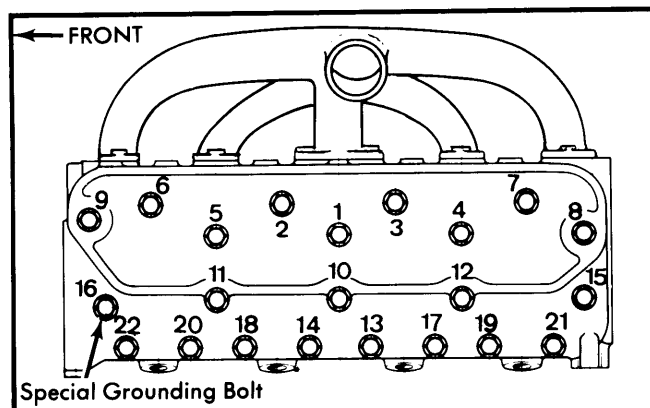

Fig. 1 Cylinder Head Bolt Tightening Sequence
2) Tighten cylinder head bolts in first step to 33 ft. lbs. (4.5 mkg) in sequence shown in Fig. 1. In second step, tighten in sequence to 47 ft. lbs. (6.5 mkg). Third step consists of loosening each bolt one at a time  $\frac{1}{4}$  turn in sequence, and then retightening to 47 ft. lbs. (6.5 mkg). Install injector holders (with new seals), injector shields and washers. Install push rods in original position and install rocker arm assembly. See **ROCKER ARM ASSEMBLY** in this article.